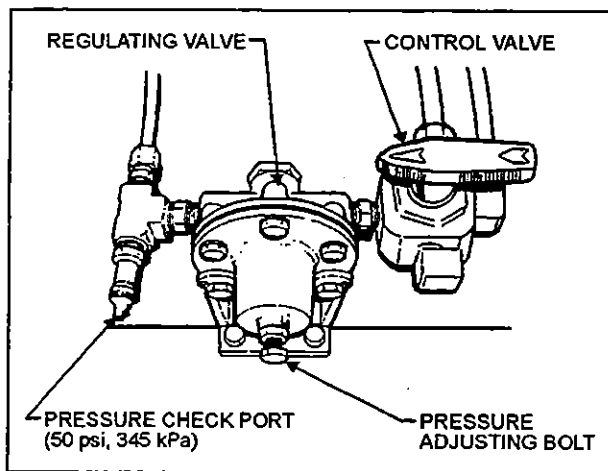

Figure 21: Belt Tensioning Pressure Control Valve 12018
7. Reset belt tensioning pressure control valve to 50 psi (345 kPa) for vehicles with series 60 engine and to 70 psi (483 kPa) for vehicles with series 50 in accordance with Section 12, Brake (Fig. 21).